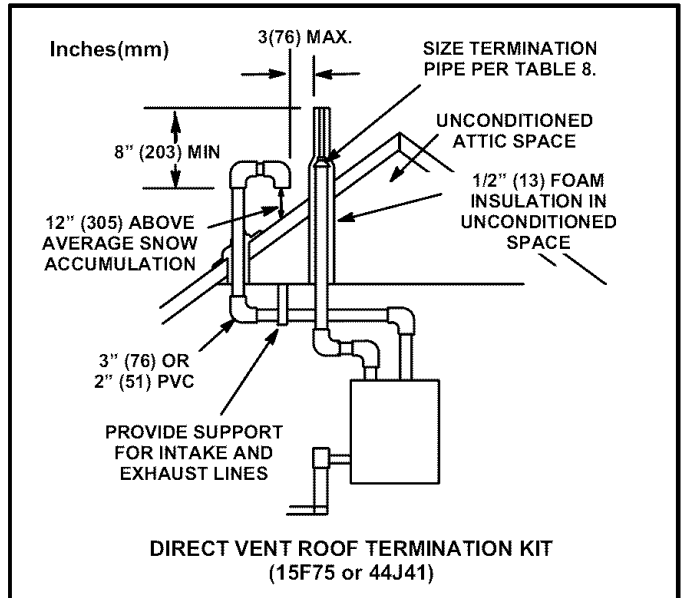

FIGURE 34
Intake and exhaust pipes may be routed either horizontally through an outside wall or vertically through the roof. In attic or closet installations, vertical termination through the roof is preferred. Figures 34 through 42 show typical terminations.
- 4 - On roof terminations, the intake piping should terminate straight down using two 90° elbows (See figure 34).